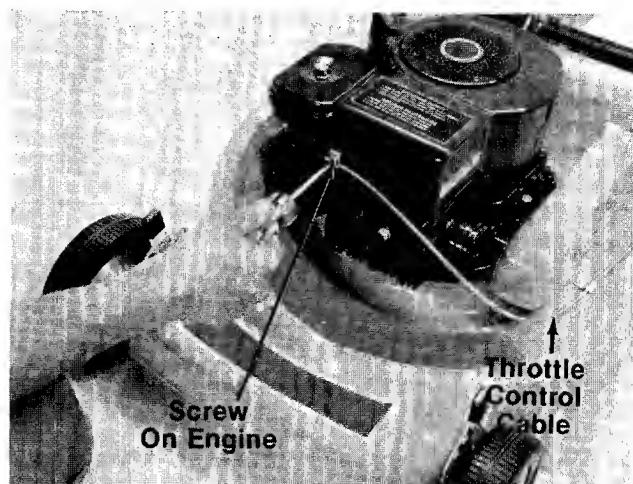

FIGURE 19.
1. Loosen, but do not remove, screw securing throttle control wire assembly at engine. See figure 19.